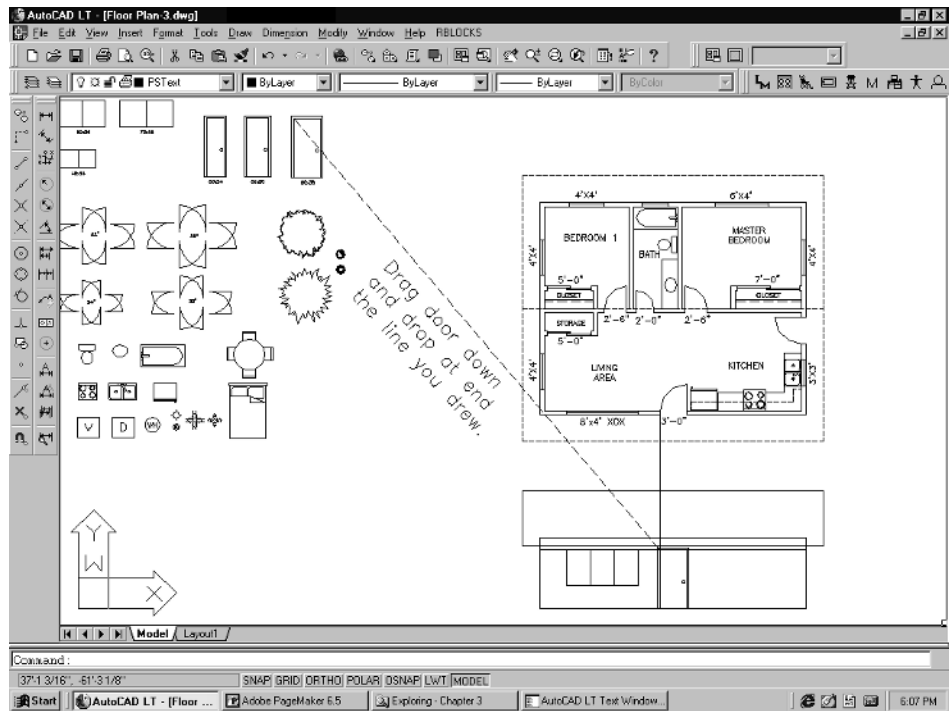

Figure 4-12
10. Except for the *First point of displacement* prompt, everything else is the same for inserting the door. Pick the **Copy** command from the Modify pull-down menu. When prompted to *Select objects*, pick the 3' door. Then press **Enter**. At the *Specify base point or displacement, or [Multiple]* prompt, pick the inside upper left corner of the door. When prompted to *Specify second point of displacement or <use first point as displacement>*, drag the door over to the elevation and drop it on the intersection of the line that you drew from the endpoint of the plan door opening, down to the header line. See Figure 4-12.